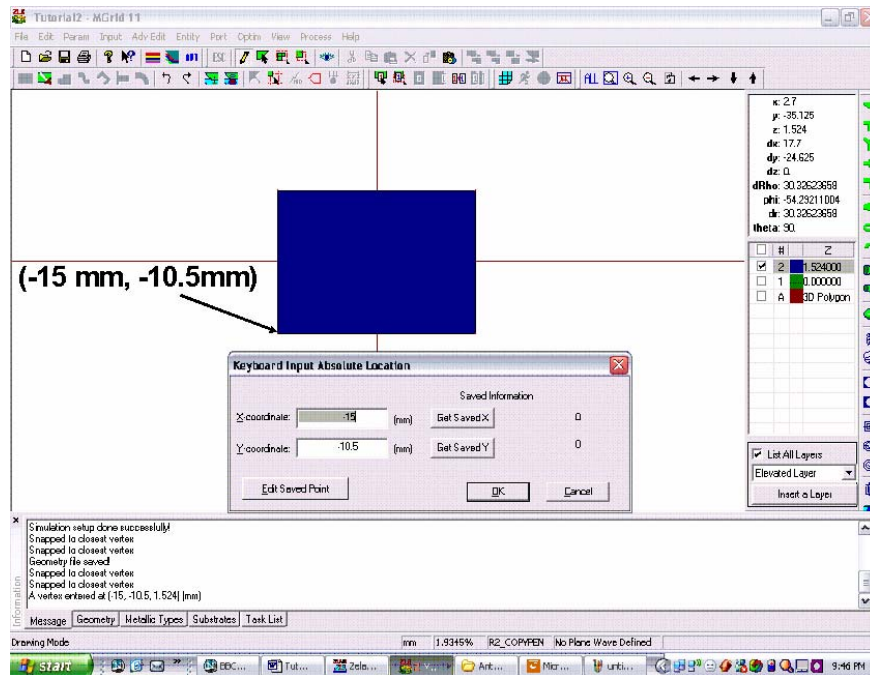

Figure 8.
- 8) The next step is to draw the rest of the structure. Press Shift+A. The “Keyboard Input Absolute Location” menu pops up. In this menu, you can place a vertex at an arbitrary location on the layout. Enter -15 for  $x$  and -10.5 for  $y$  values. Your screen should look like Figure 8. Click on OK button. The “Close Vertices” menu pops up. Click on YES to adjust this vertex to be connected to the one at (-15mm, -10.5 mm). This vertex will then be connected to the one on the lower left corner of the rectangle drawn in the previous step.